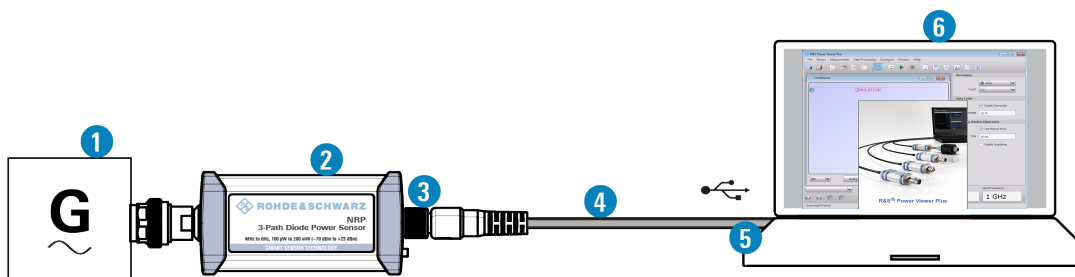

Figure 6-3: Setup with the R&S Power Viewer
1. Connect the cables as shown in Figure 6-3.